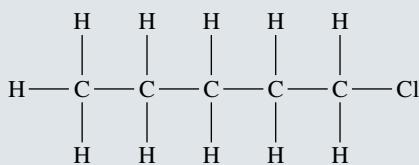

FIGURE 10.7.1 1-Chloropentane
- 1 The structure of 1-chloropentane is shown in Figure 10.7.1.